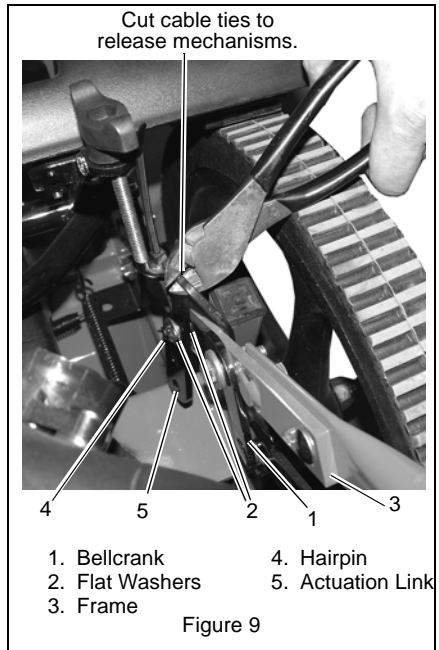

Figure 9
See Figure 9.
2. Install flat washer, actuation link and second flat washer on bellcrank stud. See Figure 9.
3. Install hairpin through bellcrank stud to secure actuation link. See Figure 9.